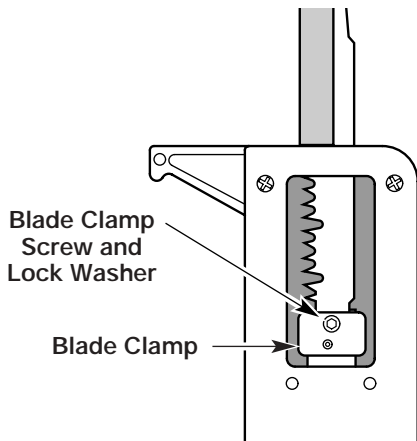

Fig. 2
3. Install the blade clamp over the blade and pin. Install the screw with lock washer and tighten securely with the allen wrench (Fig. 2).
3. While firmly holding the add-on, push it straight into the coupler (Fig. 2).